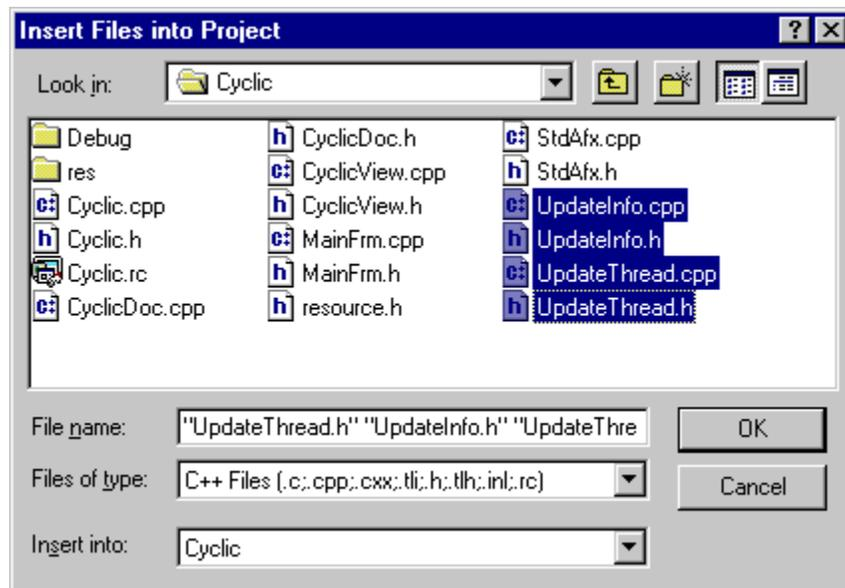

Figure 40 Insert Files into Project Dialog
- In Visual C++, go to the **Project** menu, select the **Add To Project** cascade menu, and then select **Files....** The **Insert Files Into Project** dialog will appear. In the **Insert Files Into Project** dialog select all four files as shown in Figure 40 and then push the **OK** button. (Hint: Multiple files can be selected by holding down the Ctrl key during the selection.)